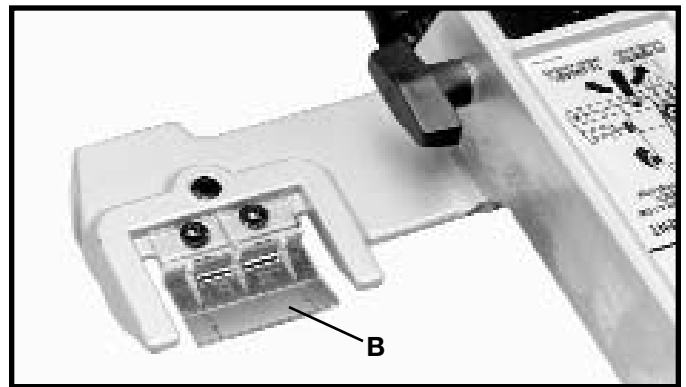

Fig. 31
2. Fig. 31 illustrates the cursor (B) assembled to the Unifence body. Adjustment to the cursor (B) will be made later.